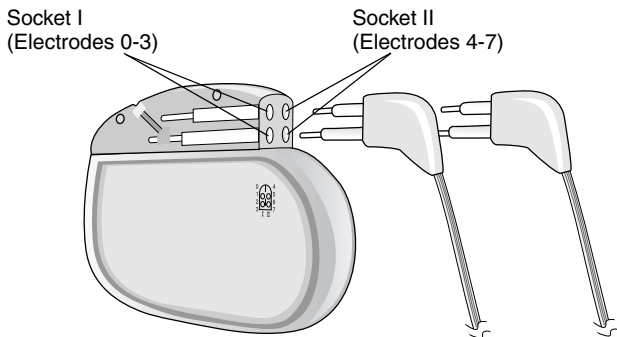

Figure 9. Insert extension connector pins fully.
10. Insert the extension connector pins for electrodes 0–3 (or plug labeled 0, 1, 2, 3) fully into Socket I (Figure 9).
11. Insert the extension connector pins for electrodes 4–7 (or plug labeled 4, 5, 6, 7) fully into Socket II (Figure 9).